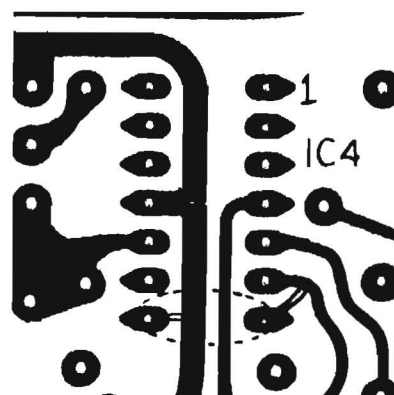

Fig. 5
7. Using Mylar sleeving over cap leads; solder .02uF cap to traces from IC4 pins 6 and 11. See Figure 5, below.
9. Replace diode with jumper wire. Refer to Selectake II schematic, Figure 5 of Selectake II manual.